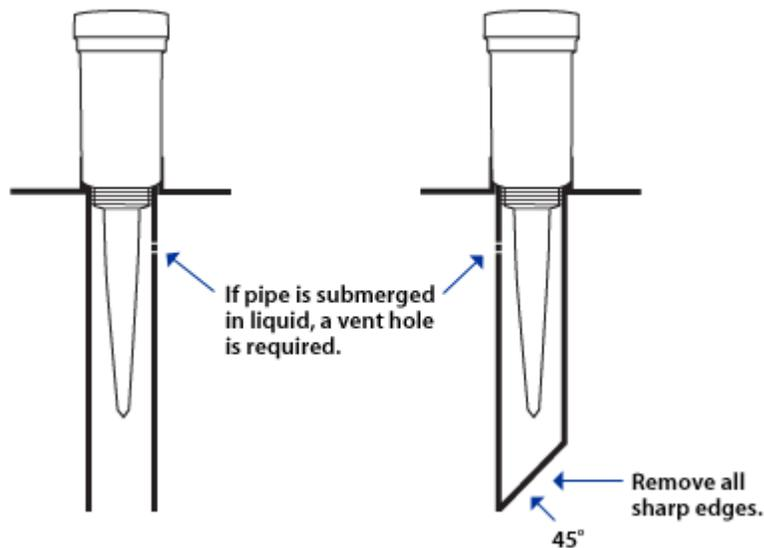

Figure 3
- b. Radar unit **MUST** be installed into a fitting with the antenna pointing downward. (See Figure 3.)